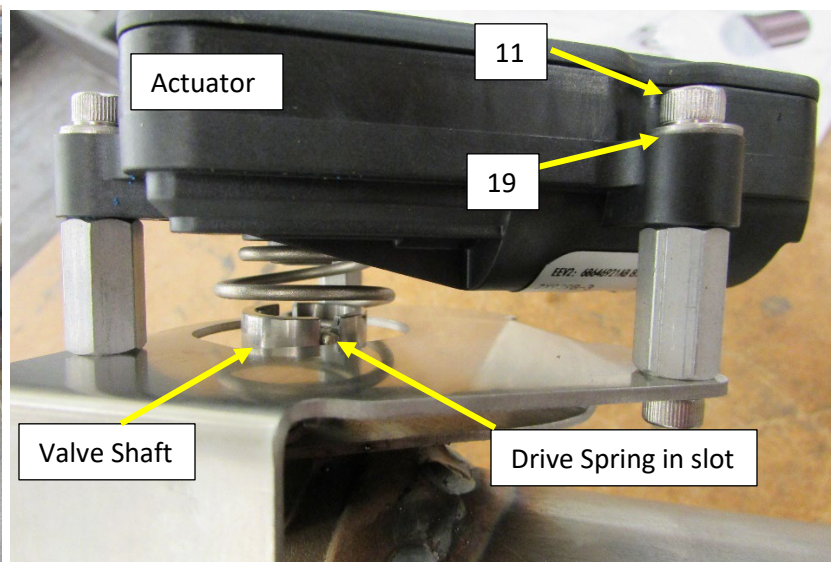

Figure.8
16. Install a flat washer on to each of the 10-32 x $\frac{3}{4}$ " screws and apply a small amount of blue thread locker on the threads. **Fig.8**
17. Place the Actuator over the bracket, align the drive spring into the groove on the drive pin of the valve. **Fig.8**
19. Install the 10-32 x $\frac{3}{4}$ " screw and washer through the mounting hole of actuator and into the threaded standoff. Tighten the first screw to hold the actuator in place. **Fig.8**
21. Verify the drive spring is still located in the valve shaft slot. Do Not over tighten the screws. **Fig.8**